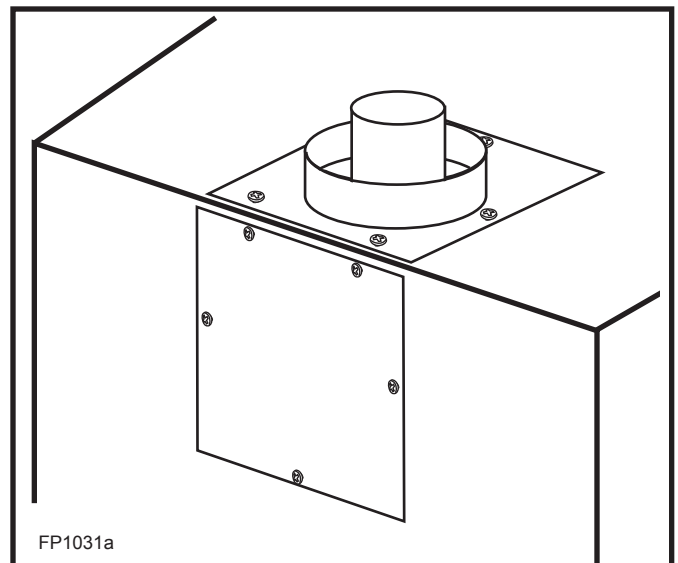

**Fig. 11** Remove flue cover and flue pipe.
3. Remove insulation from top of unit and discard. Remove the four (4) screws securing flue cover to top of unit and remove flue cover. (Fig. 11)
4. Remove the four (4) screws securing flue pipe to back of unit. Remove flue pipe. (Fig. 11)